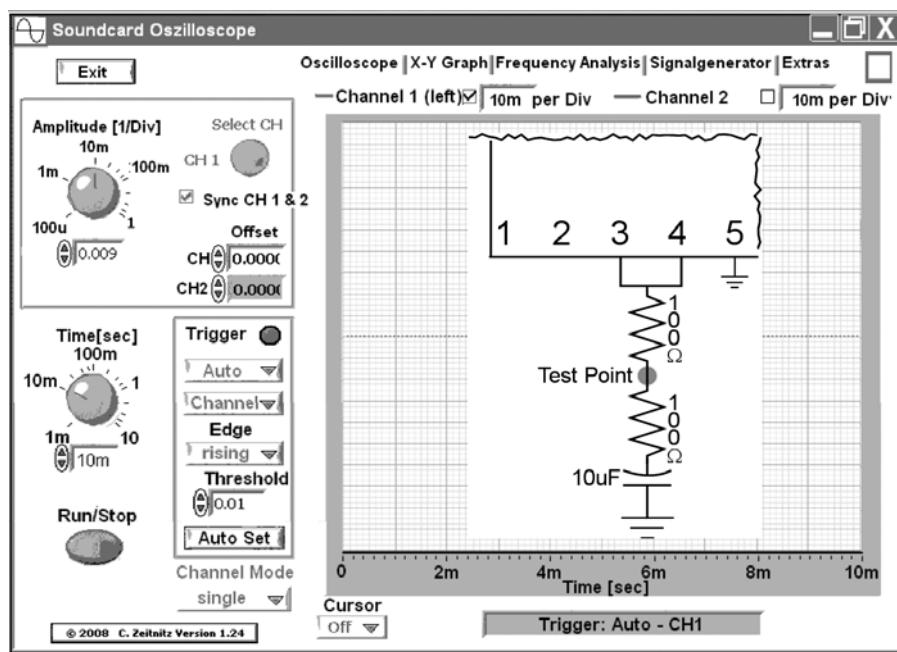

Figure L39-5
7. An oscilloscope (Soundcard Scope) is the best tool to help understand this. With the LED removed, attach the scope probe's red clip to the output at pins 3 and 4. The black clip goes to ground. The plug goes into the "Line In" connection of the sound card. The settings are shown in Figure L39-5.